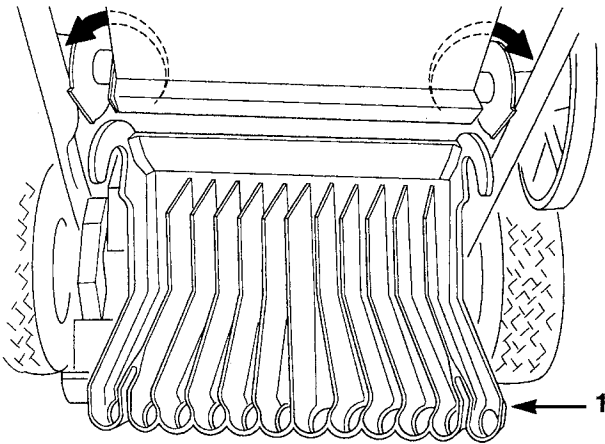

Figure 47
5. Install the chute (Fig. 47). Notice that the chute has a hook at both sides.
3. Rotate the chute up and slide it forward to disengage the hooks from the axle (Fig. 47).